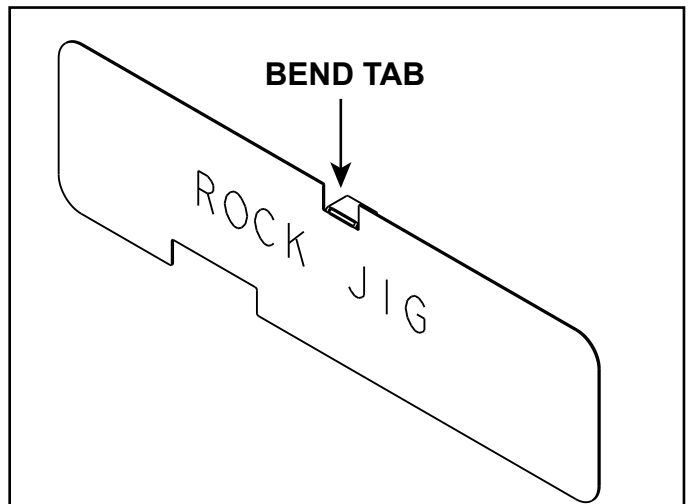

Figure 11.5 Bend Tab on Rock Jig
- Bend tab on rock jig down as shown in Figure 11.5.